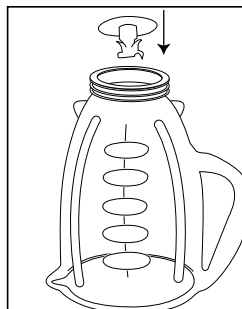

FIGURE 3
3. Place blade into jar. (Figure 3)